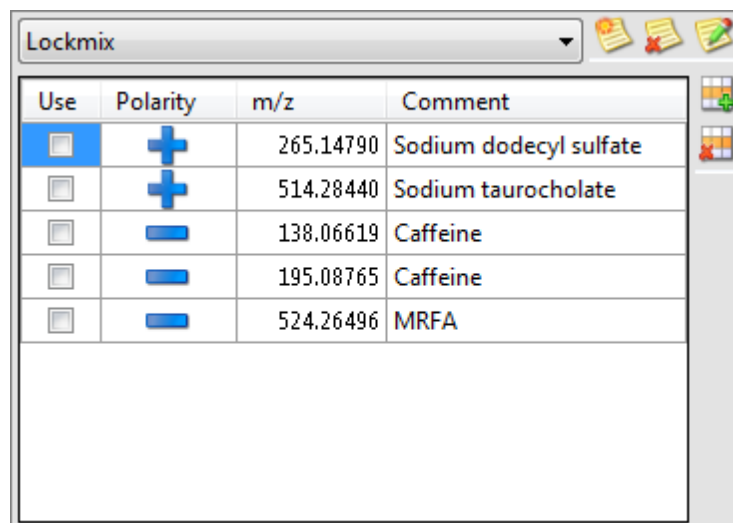

Figure 5-1. Adding a new lock mass
1. In the Lock Masses dialog box, click the  button. A new row appears at the end of the lock mass table. See Figure 5-1.